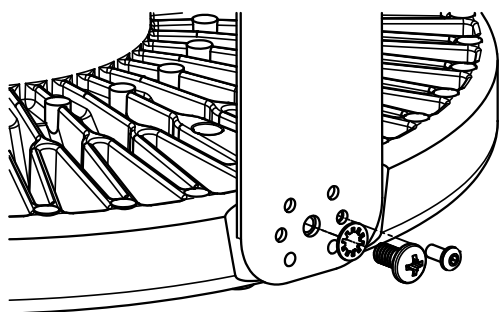

FIGURE 2
2. Secure Yoke to heatsink with (2) ¼-20 screws and (2) star washers. (See Figure 2)
5. Fasten (2) 8 32 screws through the yoke and into the heatsink to lock the rotation of the heatsink. (See Figure 2)